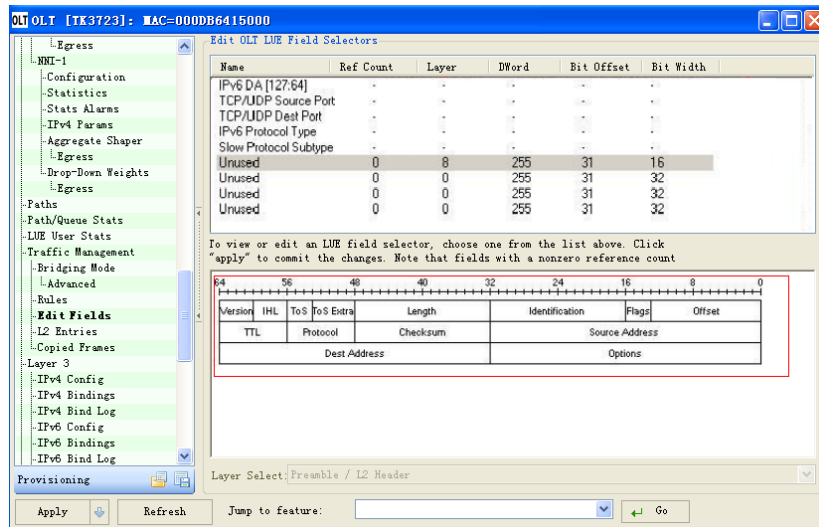

Figure 8-3 L3 IPv4 Header Chart
- 3) In the lower part of the window, click the Layer Select drop-down box to display options and select the required layer. For example, L3 IPv4 Header, the lower part of the window will display a chart shown in the Figure 8-3;